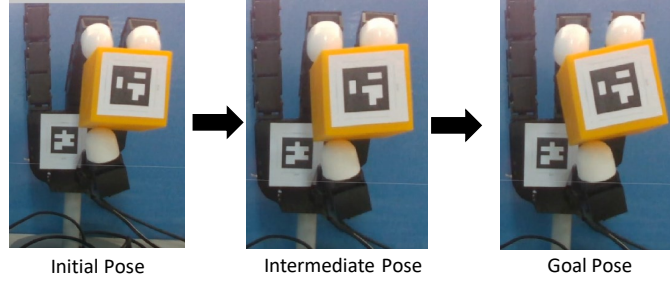

Fig. 3. Snapshots of rotation task
Fig. 4. Variation of the Joint Torque (JT) signal of the 16 actuated joints of the ARH corresponding to the motion in Fig. 3. 'F1' refers to the torque signals of the four joints of the first robotic finger (from right) actuating the object, 'F2' refers to the second finger. 'F3' (third finger) does not hit/ actuate the object, hence the torque signal remains constant. 'Th' refers to the four joints corresponding to the thumb signal.